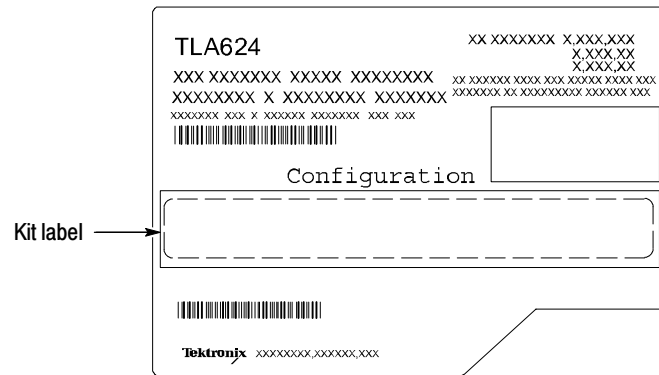

Figure 3: TLA600 series logic analyzer label (located on the rear of the instrument)
1. Locate the big label on the rear of the instrument; it should look similar to the label in Figure 3.
2. Locate PowerFlex option label from the label sheet that you received with this kit. Peel the label from the sheet and affix it to the location indicated by “Kit label” in Figure 3.